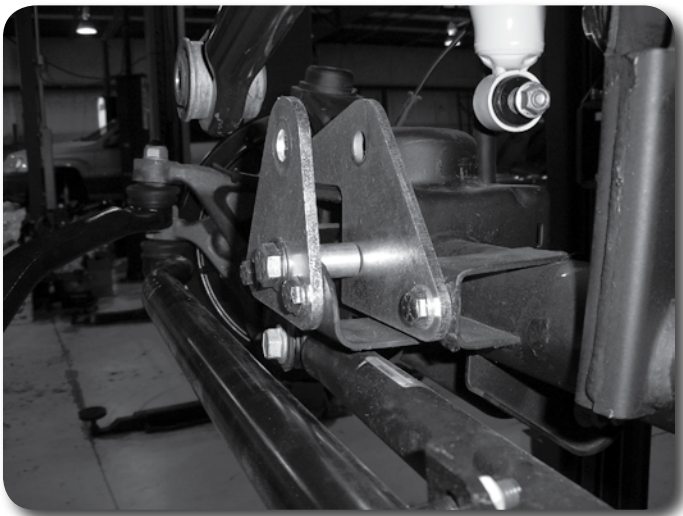

Figure 10
26. Position the new bracket plates on the factory track bar mount. The inside bracket will mount so the wing will rest flush with the top-front edge of the coil mount bracket. The outside plate mounts to the front face of the factory bracket. Position the provided sleeve (0.750" OD x 1.375" Long) in the original track bar mount position aligned to the original mount holes as well as the large holes in the new bracket plates. Loosely fasten with a 9/16" x 3" bolt, nut and washers. Snug hardware so the plates set flush against the factory mount. **Figure 10**